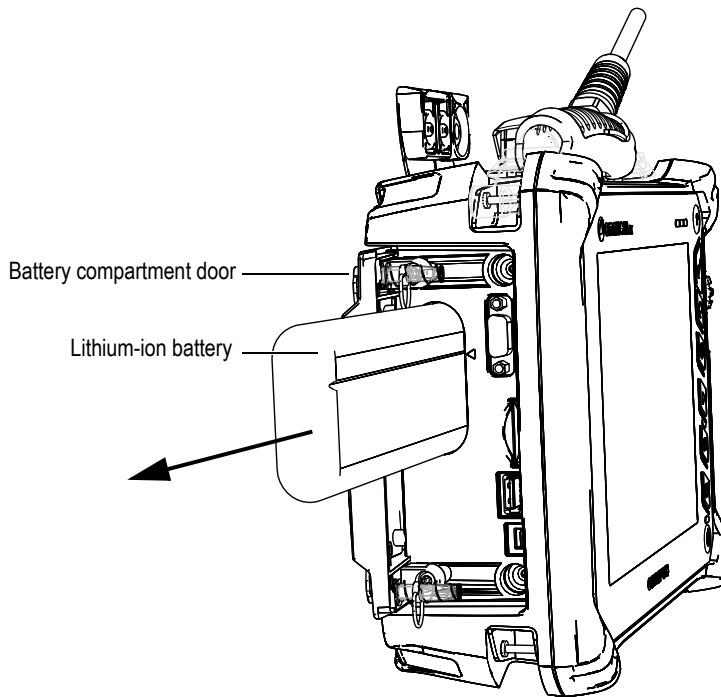

Figure 3-6 Removing a lithium-ion battery
2. Pull the tab to remove the battery (see Figure 3-6 on page 48).